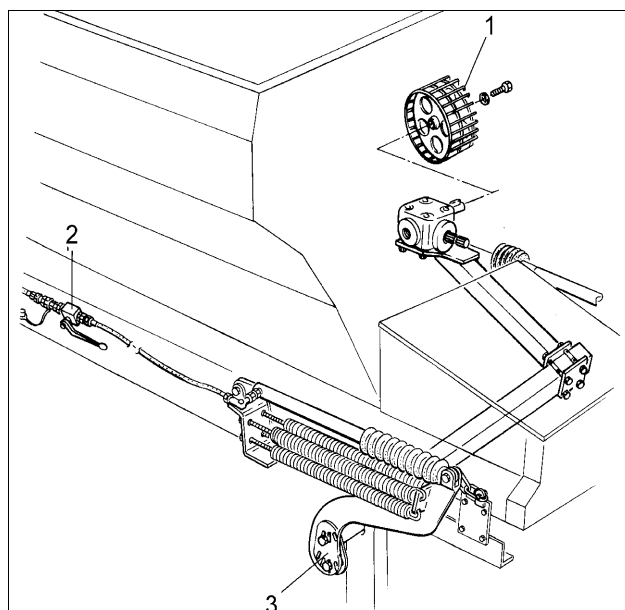

Fig. 74
2. Connect the hydraulic plug (Fig. 74/2) to a single-action control valve on the tractor.